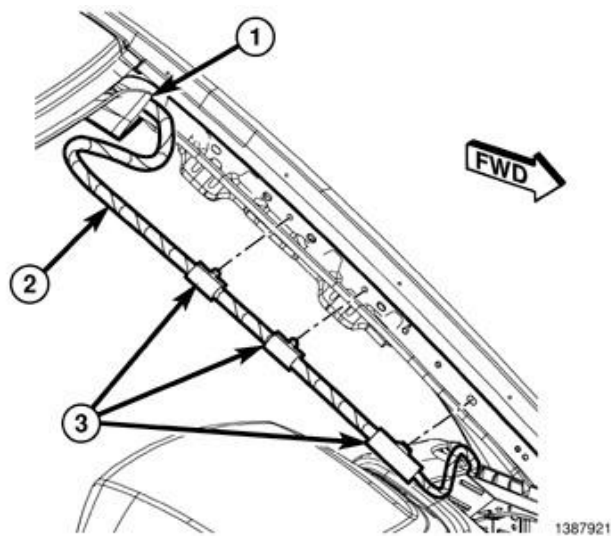

Figure 10 – Headliner Harness
15. As necessary, release the headliner wiring harness clips (3) from the A-pillar to allow enough wiring harness slack for lowering the headliner (Figure 10).
35. Reattach any headliner wiring harness clips (3) removed from the A-pillar to allow slack while lowering headliner (Figure 10).